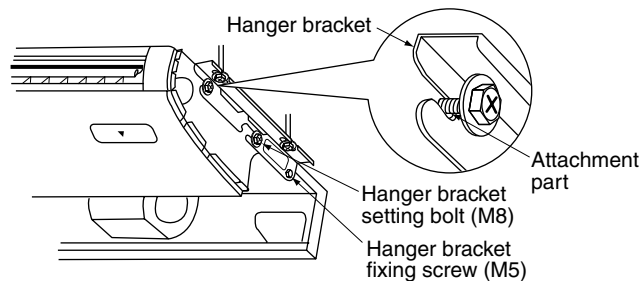

Fig. 11
(2) Lift the indoor unit's main body, insert the bolts (M8) for the hanger brackets into the attachment part on the hanger brackets, while sliding the main body from the front. (Refer to Fig. 11)
(3) Fasten the bolts for the hanger brackets (M8) securely in 4 places, left and right. (Refer to Fig. 11)
(4) Replace the screws for the hanger brackets which had been removed (M5) securely in 2 places left and right. This is necessary to prevent any forward and back slide in the main body of the indoor unit. (Refer to Fig. 11)